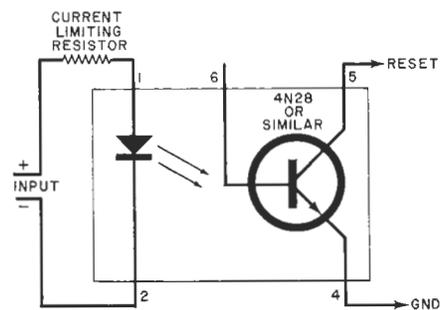

Fig. 4. An optoisolator can be used to interconnect two timers for extremely long timing durations.
**Using the Timer.** RESET pushbutton switch S2 or the RESET input on the four-lug terminal strip returns the interval timer and display to zero. The display remains at zero as long as the RESET switch is closed or the RESET input is grounded. Releasing either initiates the timing cycle. If you desire remote operation of the reset feature, you can use the optoisolator circuit shown in Fig. 4.